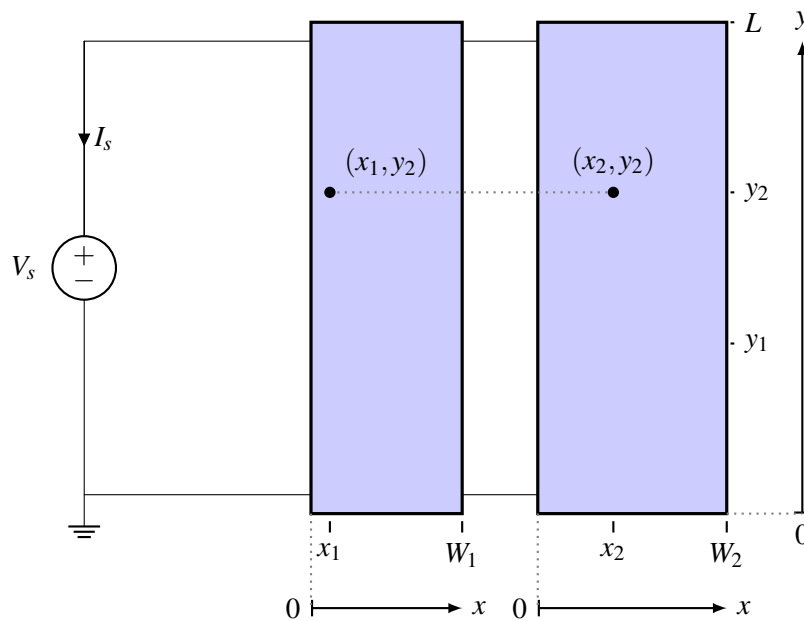

Figure 5: Top view of two touchscreens wired in parallel (not to scale). z axis not shown (into the page).
- (f) **Figure 5** shows a new arrangement with two touchscreens. The two touchscreens are next to each other and are connected to the voltage source in the same way. The second touchscreen (the one on the right) is identical to the one shown in Figure 2, except for different width, W_2 , and resistivity, ρ_2 . Use the following numerical values in your calculations: $W_1 = 50$ mm, $L = 80$ mm, $t = 1$ mm, $\rho_1 = 2 \Omega\text{m}$, $V_s = 10\text{V}$, $x_1 = 20$ mm, $x_2 = 45$ mm, $y_1 = 30$ mm, $y_2 = 60$ mm, which are the same values as before. The new touchscreen has the following numerical values which are different: $W_2 = 85$ mm, $\rho_2 = 1.5 \Omega\text{m}$. Draw a circuit diagram representing **Figure 5**, where the two touchscreens are represented as *two separate resistors*. **Note that no touch is occurring in this scenario.**
- (h) Consider the two points: (x_1, y_2) in the touchscreen on the left, and (x_2, y_2) in the touchscreen on the right in **Figure 5**. Show that the node voltage at (x_1, y_2) is the same that at (x_2, y_2) , i.e. the potential difference between the two points is 0. You can show this without explicitly calculating the node voltages at the two points.